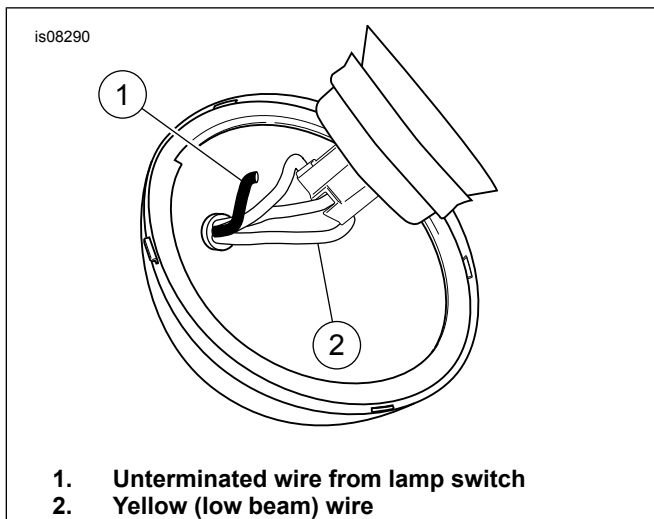

Figure 8. Splice the Unterminated Wire from the Switch to the Headlight Yellow (Low Beam) Wire
18. See Figure 8. Route the unterminated wire (1) from the switch through the grommet into the headlight housing. Splice it to the yellow (low beam) wire (2) using the Scotchlok® electrical connector (Item 14) from the kit.